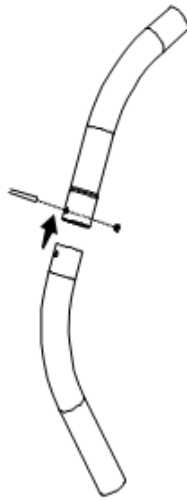

FIG.5
2. Connect the split arms by using the nut and bolt. (FIG.5)